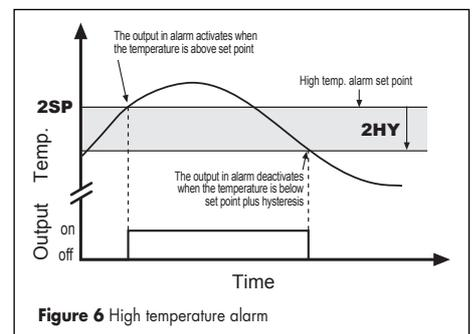
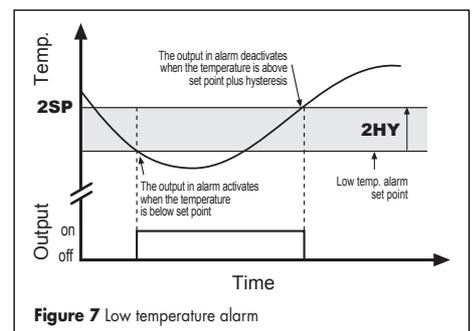

Figure 6 High temperature alarm
Figure 7 Low temperature alarm
5.6. CHANNEL 2 IN ALARM. A high temperature alarm may be set in this mode by assigning a negative value (see Figure 6) to **2HY** and a low temperature alarm by assigning a positive value (see Figure 7) to **2HY**. The hysteresis indicates the amplitude of the deviation of the temperature from the set point in order to deactivate the alarm. To fix the alarm threshold, see 5.1.